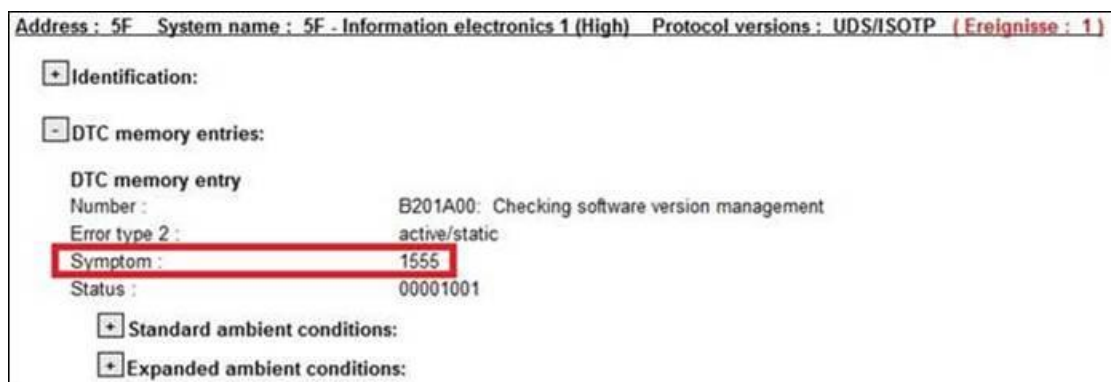

Figure 2
d. In Figure 2 (above), the symptom number shown inside the red box is 1555.